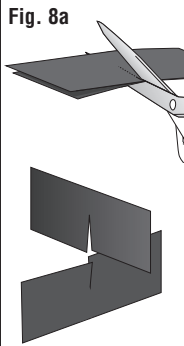
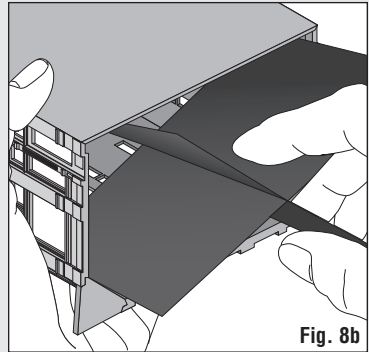

Fig. 8a
Fig. 8b
- Cut two sheets of Blackout Paper, each measuring 3-1/4" l x 2-1/2" h (Fig. 8a).
- Lay the two sheets on top of each other and cut a notch half-way up both sheets (Fig. 8a).
- Assemble as shown (Fig. 8a). Insert into building (Fig. 8b). Place a drop of glue at each corner to hold in place.